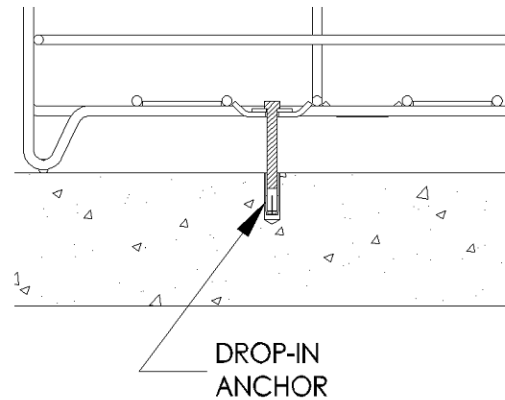

Figure 3
- Poured concrete: Use (2) drop-in type wedge anchors made for 3/8" hex head bolts. (See Figure 3)
- Pavers: If pavers are installed over poured concrete, use (2) drop-in type wedge anchors made for 3/8" hex head bolts with enough length to go through brick and into concrete.